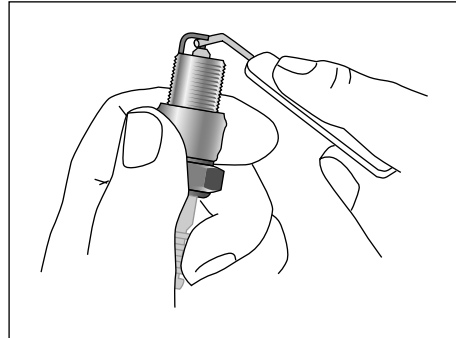

Figure 6-4: Gapping a plug with a wire gauge.
2. **Select the proper number on your feeler gauge, and run the gauge between the electrodes (see Figure 6-4).**